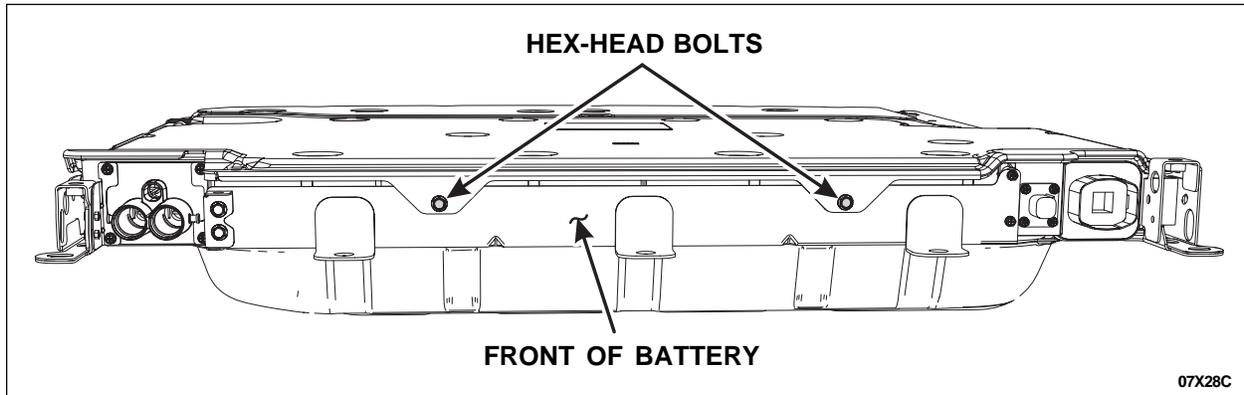

FIGURE 20
29. Tighten the 2 Hex-head bolts securing the front side of the front battery cover to 12 Nm (9 lb-ft). See Figure 20.